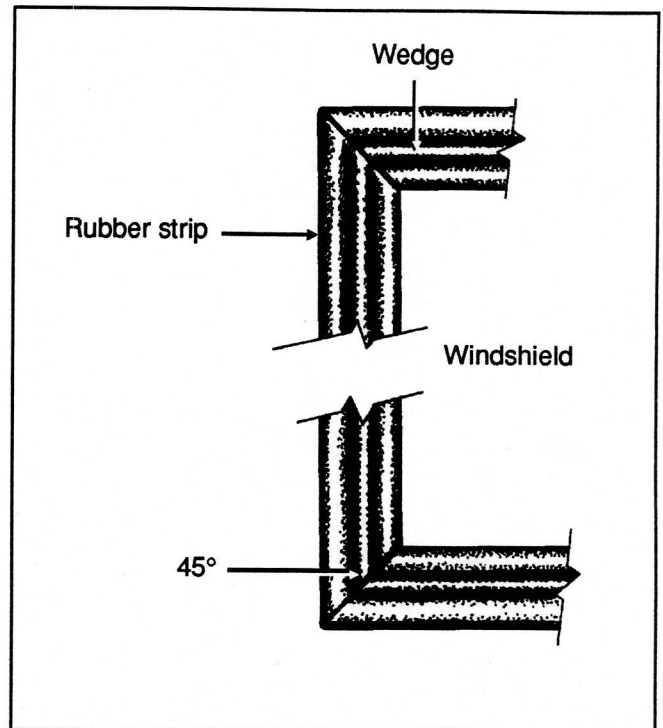

Figure 1
4. Cut an extremity of the wedge to a 45° angle. See figure 1.
8. Install wedge in the rubber strip in order to have a 90° joint in lower windshield corner. See figure 1.